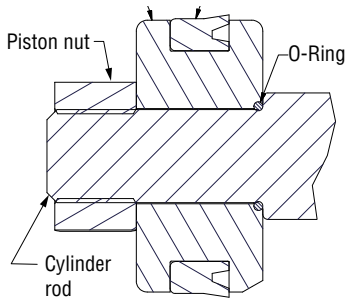

Figure 5-5, Piston Seal
2. Note the direction of the seal on the piston. Improper installation will result in poor performance. The cupped side or O-Ring side of the seal should be facing the gland cap. (Figure 5-5)